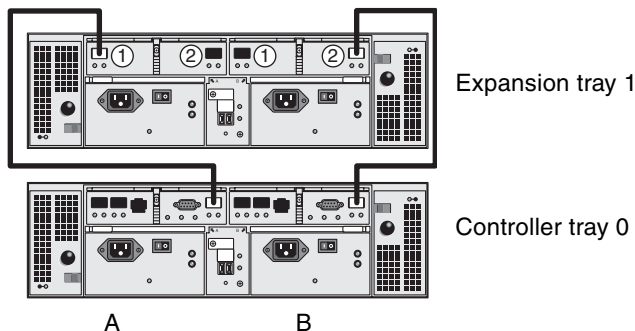

FIGURE 2-38 1x2 Array Configuration Cable Interconnection
3. Connect one FC cable between the A side expansion port of the controller tray and the A side port 1 of the expansion tray (FIGURE 2-38).
4. Connect one FC cable between B side expansion port of the controller tray and the B side port 2 of the expansion tray (FIGURE 2-38).